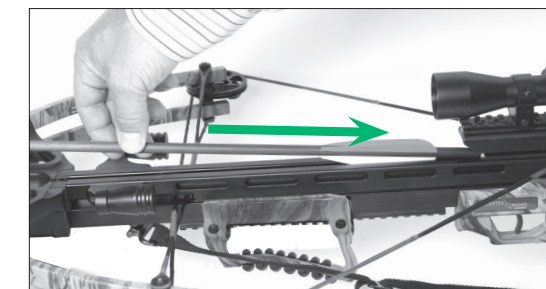

FIGURE 19
- 2d Grip the arrow near its point on the opposite end to the fletching. The crossbow may be loaded by keeping all hands and body parts out of the path of the bowstring and in the safe loading area (Fig. 19). Keep your hands, fingers and all other body parts out of the travel path of the string and cables at all times. The crossbow is designed so that the user never needs to place a body part into the path of the crossbow string. Failure to follow this warning could lead to serious injury or death.
- 2e Place the arrow/bolt so that the cocking vane (the odd colored vane), is down in the flight groove (Fig. 19)
- 2f Slide the arrow/bolt back to the trigger assembly, under the arrow/bolt retention spring, until the arrow/bolt nock rests fully on the string. (Fig. 19)